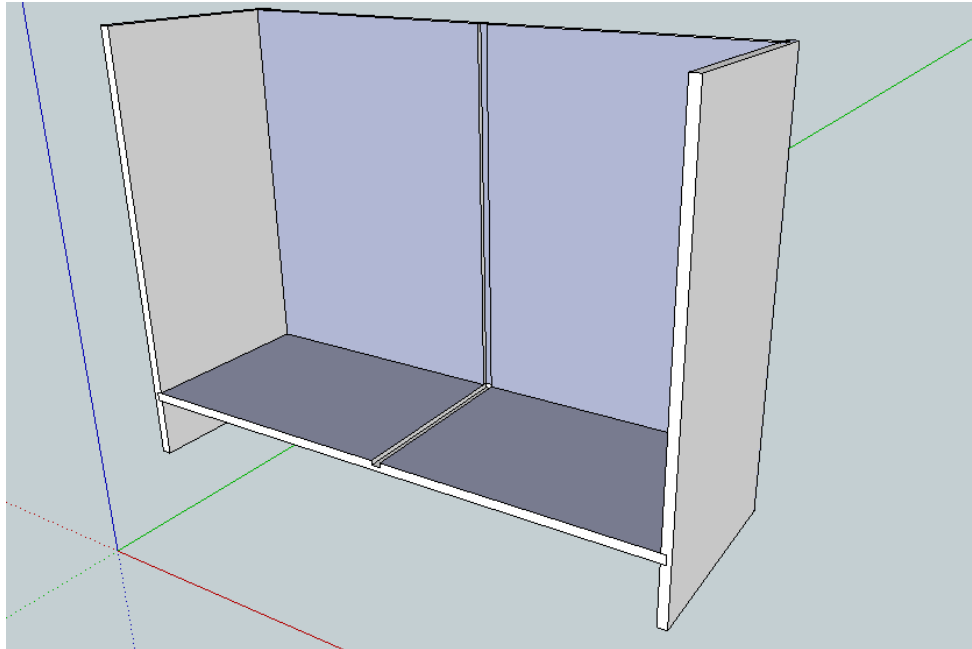

Figure 17: Bottom Cabinet Bottom Added to Assembly
2. Next up is the Bottom Cabinet Bottom. Apply a liberal amount of wood glue into the bottom groove that spans the Bottom Cabinet Sides and Back pieces. Insert the Bottom Cabinet Bottom into the groove and flush it up with the front of the sides. The groove in the bottom piece should be facing up and aligned with the groove in the back piece. Again, the bottom piece can be pinned in place with some brad nails. See Figure 17.